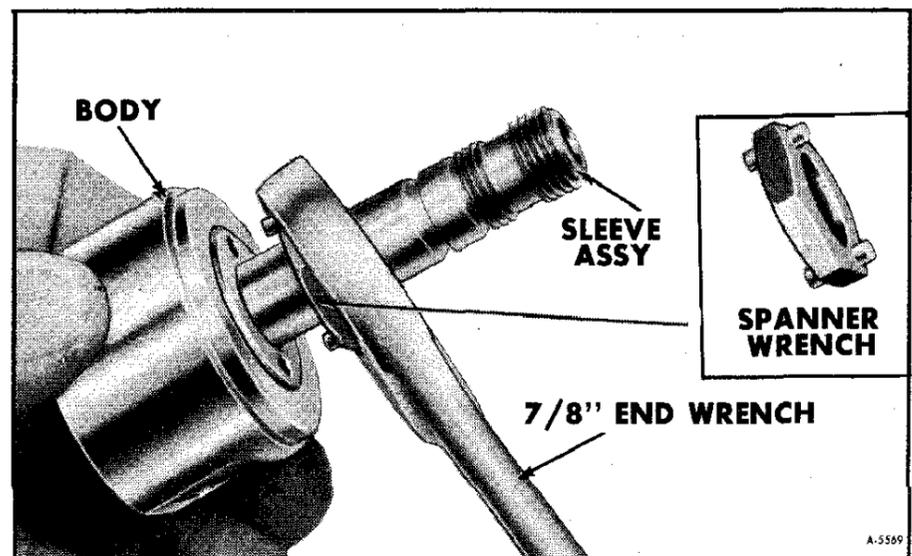

Figure 18—Removing or Replacing Sleeve with Special Tool (Spanner Wrench-Skinner #V0233)
3. Using spanner wrench (SKINNER # VD-233, or equivalent) remove sleeve, plunger and spring from valve body. (See figure 18).